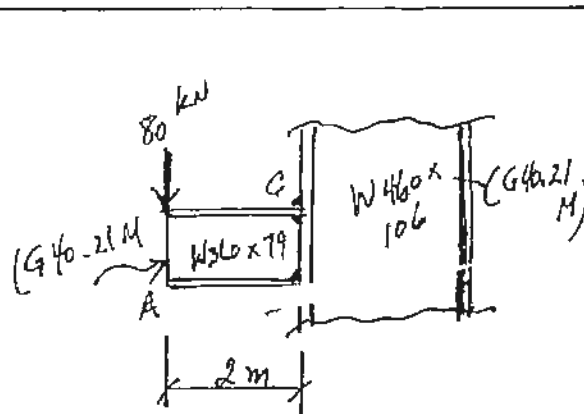

FIGURE A2
- A2. A loaded steel stub-beam AB, Figure A2, of W360 x 79 section (G40.21M) is welded to a heavy column, W460 x 106 (G40.21M). Design the welded connection at BC. Check whether the stub-beam AB can adequately carry the load shown.